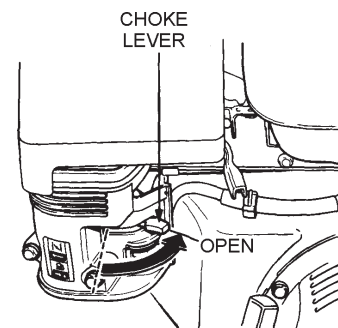

Figure 3. Engine Choke Lever (Open)
3. Place the **choke lever** (Figure 3) in the "OPEN" position if starting a **cold** engine.